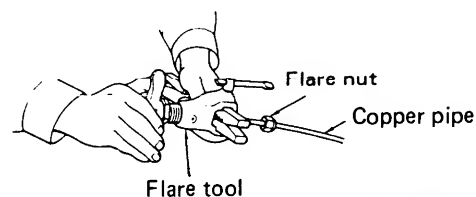

Fig. 25
- Make a flare at the end of copper pipe with a flare tool\* Fig. 25 (\*Use "RIGID" or equivalent.)